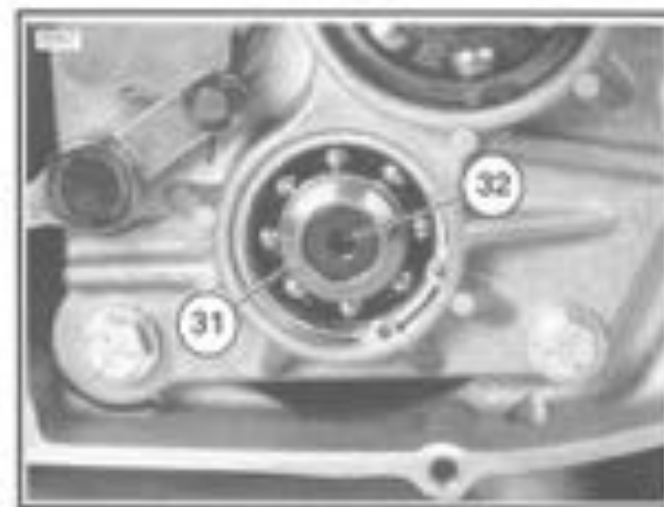

Figure 6-42.
20. See Figure 6-42. At outside of access door, position retention collar (31) next to end of countershaft with beveled side facing outward. Apply a few drops of Loctite 242 blue to the threads of screw (32), insert screw (32) through retention collar, and thread into end of shaft. Place transmission in gear, and tighten TORX screw to 13-17 ft-lbs (16-23 Nm) torque.